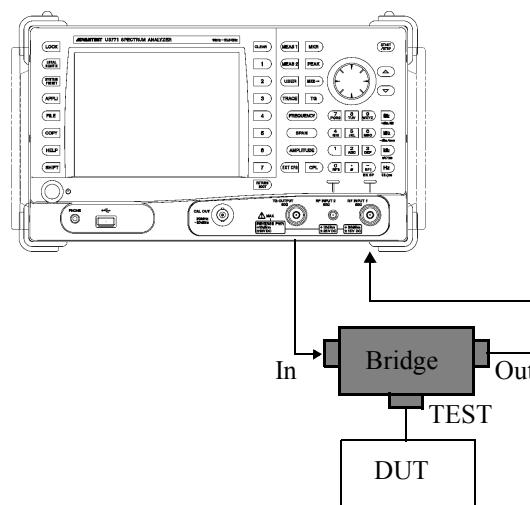

Figure 4-23 VSWR Measurement
1. Connect the SWR bridge as shown in Figure 4-23 VSWR Measurement.